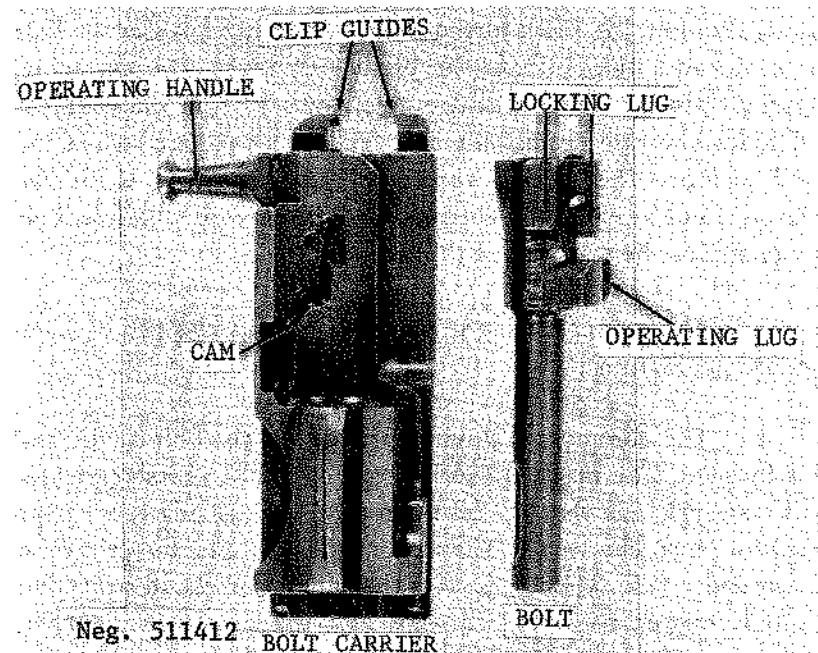

Figure 112. Type 68 bolt.
e. Push the bolt to the rear in the carrier; then twist the bolt (fig 112) until it can be pulled forward and out.
k. Place the spindle of the bolt into its hole in the bolt carrier and twist the bolt until the operating lug (fig 112) slips into its groove in the bolt carrier. Pull the bolt forward in the carrier. Mate the slot on the right side of the carrier with the upper lip on the right side of the receiver, lay the carrier onto the left upper lip, then move the carrier until the lug on its left side enters the cut in the left rear receiver lip. Push the bolt carrier fully forward.
lug on the bolt (fig 112); further bolt carrier travel causes the bolt to rotate and unlock from the barrel extension. The extractor, engaged with the fired cartridge case, pulls it from the chamber and holds the case against the bolt face until the case strikes the fixed ejector. The ejector forces the case to pivot about the extractor and be expelled. The rearward travel stops when the bolt carrier strikes the rear wall of the receiver.